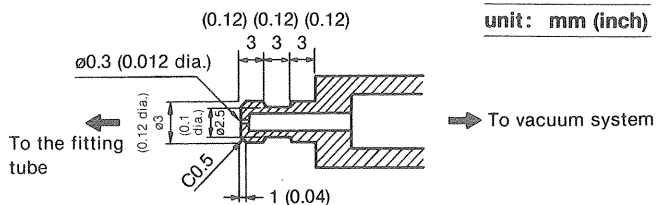

Fig.2 Dimensions of Orifice
- In operating the probe DG-810, 810L, 2810, 2810L with a vacuum pump, use such an air-pass system as shown in Fig.1. The optimum vacuum rate is 300~500mmHg. Further, put such an orifice as shown in Fig.2 on a tube from the air lifter connector to control the air suction and discharge speed. The measuring feeler is lifted at the air discharge to the vacuum pump.